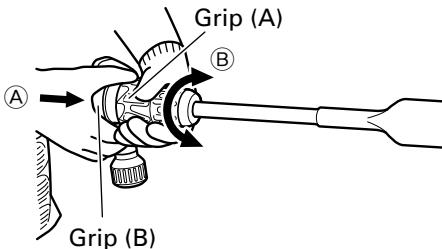

Fig. 4
- (1) As shown in Fig. 4, the blade angle can be freely changed if the grip (A) is turned in the direction of Ⓑ in a state where grip (B) is slid in the direction of Ⓐ.
- (2) Release grip (B) and turn the tool, and make sure that it is locked completely.